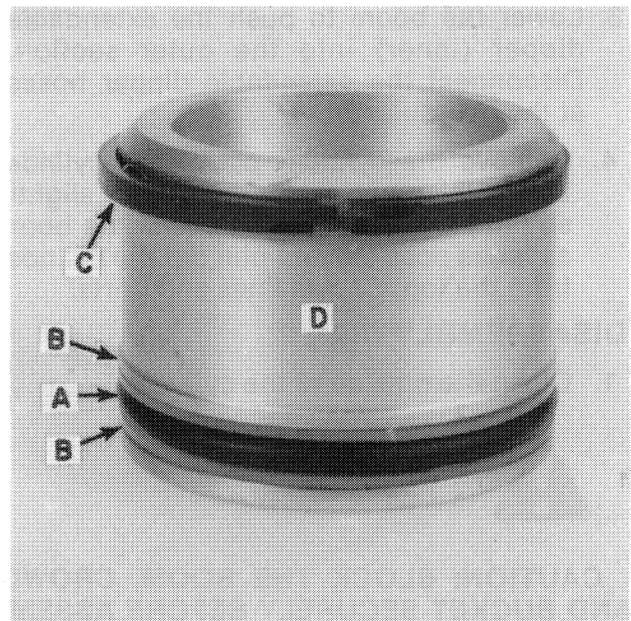

FIGURE 2-21
5. Install a back-up washer, B, Figure 2-21, then an O ring, A, and another back-up washer, B, on piston, D. Install a C. I. ring at C.